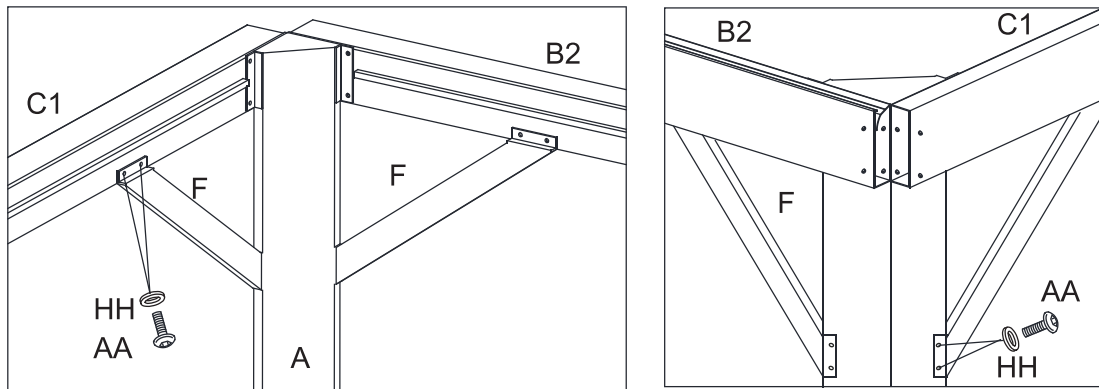

Figure 5.2
5.2 Attach Support Bars (F) to the Corner Post (A) and the Lintels (C1/C2) with Bolts (AA) and washer (HH). See Figure 5.2.